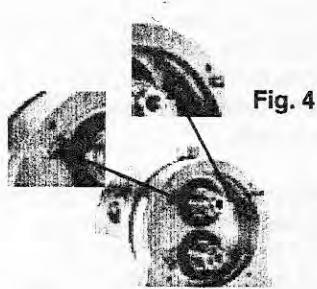

Fig. 4
1. Remove front cover (11) as described in section 4.1.
2. Remove rotors (6) as described in section 4.2.
3. Remove rotor case (46) as described in section 4.3.
4. Remove the oil seal plate (15) by undoing and removing the screws (12) and pulling the front oil seal plate out. See fig. 4.